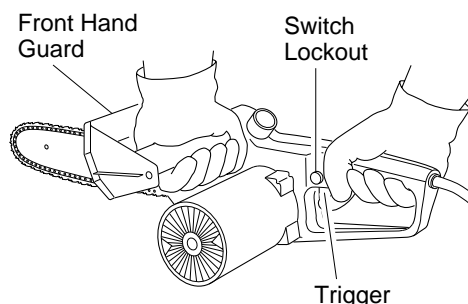

Figure 9 - Front Hand Guard, Switch Lockout, and Trigger Location
3. Use both hands to grip saw. Always use left hand to grip front handle and right hand to grip rear handle. Use firm grip. Thumbs and fingers must wrap around saw handles (see Figure 9).
5. When ready to make a cut, press in switch lockout with right thumb and squeeze trigger (see Figure 9). This will turn saw on. Releasing trigger will turn saw off. Make sure saw is running at full speed before starting a cut.